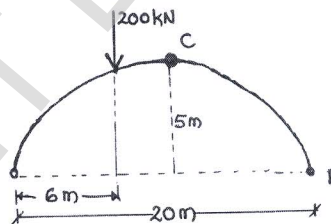

Fig.Q.8(a)
- 8 a. A three hinged parabolic arch of span 20m and central rise of 5m carries a point load of 200kN at 6m from left hand support as shown in Fig.Q.8(a).